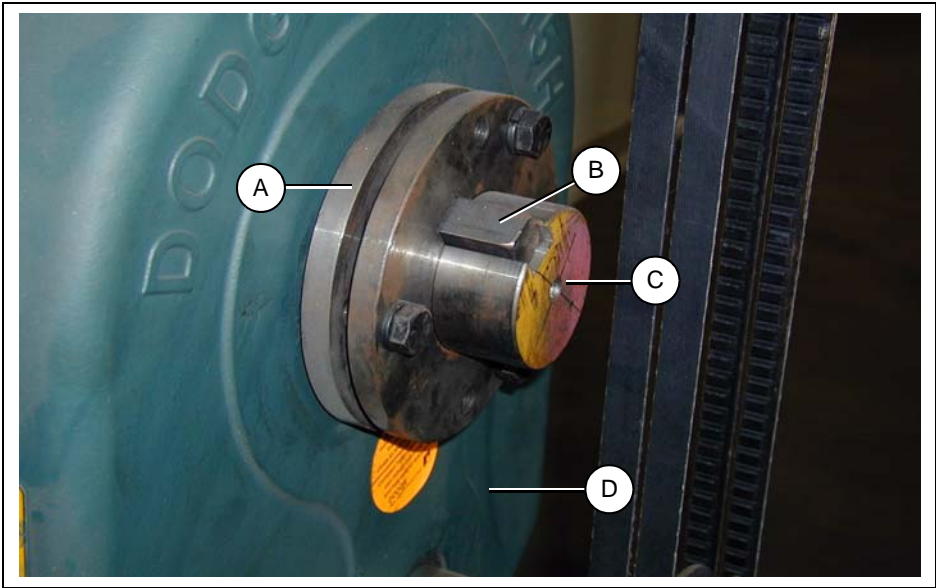

Figure 5C
- 1. To aid in the installation of the reducer onto the shaft, remove any protective coating film from the shaft. (See Figure 5C.)